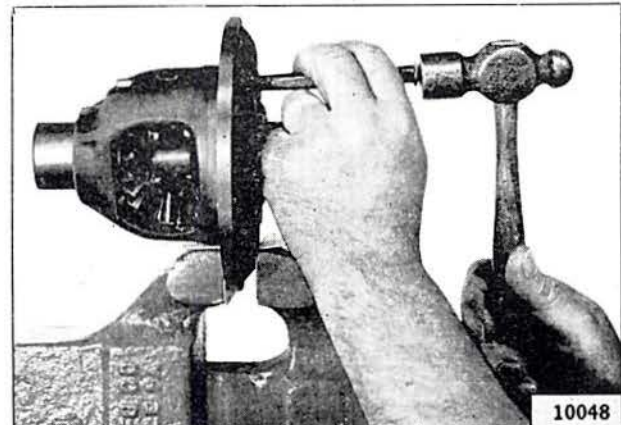

FIG. 241—REMOVING LOCK PIN
f. The differential shaft is held in place by a lock pin. Use a small punch as shown in Fig. 241 to drive out the lock pin. Remove the differential shaft.